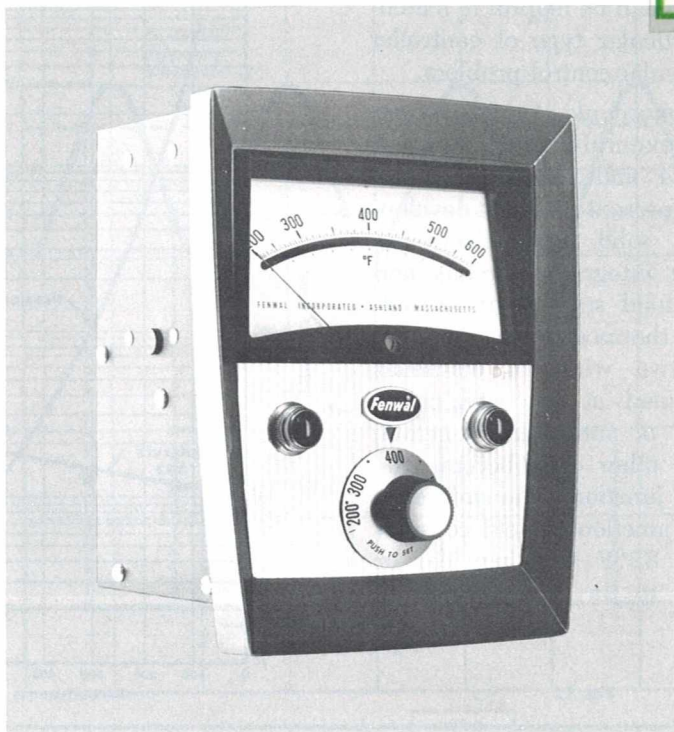

Fig. 13
c. *Thermistor-Actuated controllers*: these controllers, exemplified by the Fenwal Series 561 (Figure 13) and Series 536, represent a relatively new development in temperature control techniques. These are temperature controllers actuated by a thermistor sensing element, connected by lead wires to an electronic amplifier, indicating circuit (if present) and control circuit all contained in a separate housing or chassis. These controllers offer unusual advantages. They are highly accurate and mechanically rugged, have excellent stability with age, utilize a small sensing element, require infrequent calibration and can be located up to 200 ft or more from the sensing element using standard electrical conductors. This performance results from the remarkable properties of the thermistor.